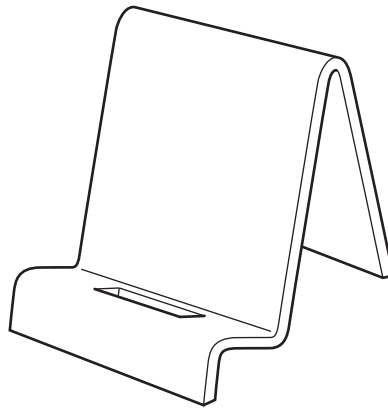

Fig. 2
- 2 Fig. 2 shows a docking station for a mobile phone.
- (a) State a suitable material for a docking station of the type shown in Fig. 2 **and** give **two** reasons for your choice. [3]